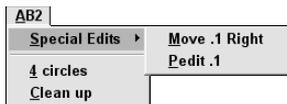

Figure 33-8: The AB2 menu, including the submenu.
9. Choose the Menu Bar tab. Choose AB2 from the Menu Group drop-down list. In the Menu Bar list, choose Window so that your menu will be inserted just before the Window menu. Click Insert to insert the menu. Click Close. The menu should look like Figure 33-8. Notice the submenu and the dividing line.